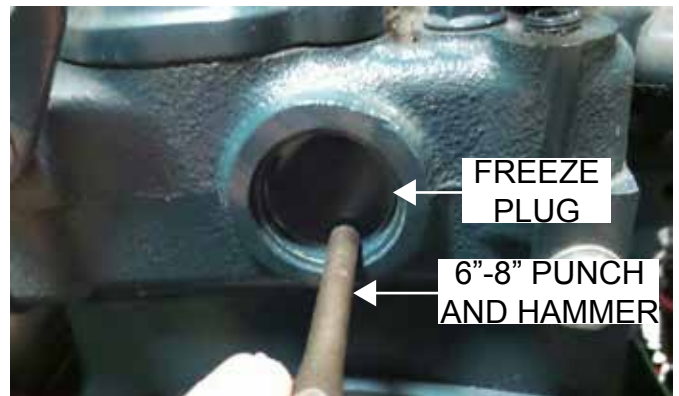

Figure 8. Freeze Plug Loosening
3. Using a 6"-8" punch and hammer, tap one edge of the freeze plug (Figure 8) until it becomes loose or offset from its original set placement.